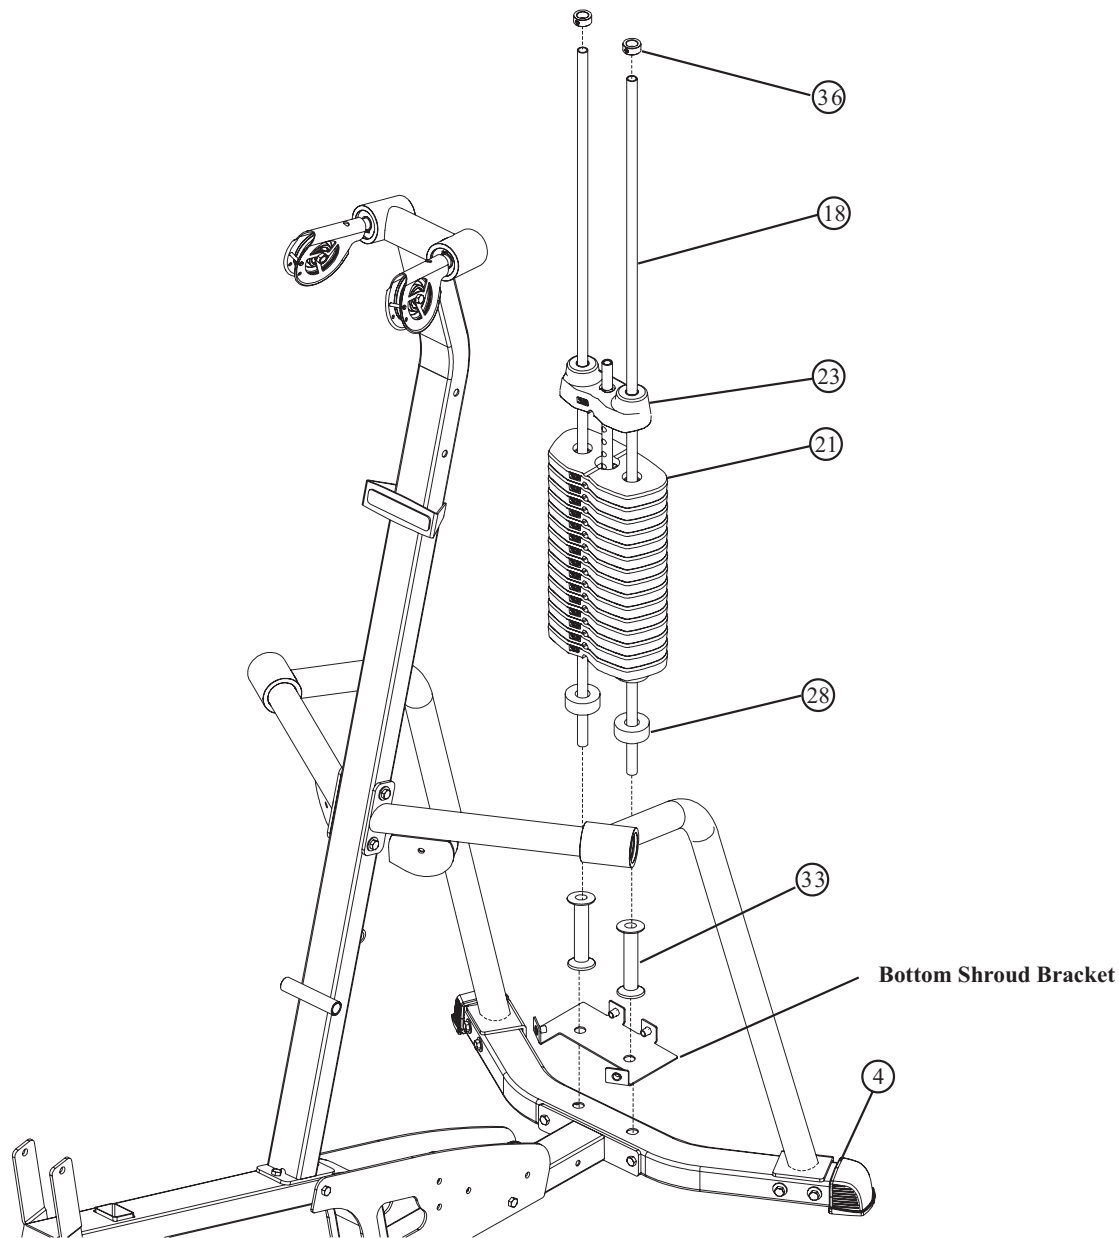

FIGURE 5
- Place the GUIDE RODS (18) through the BOTTOM SHROUD BRACKET and into the REAR BASE (4) as shown in Figure 5.
- Lubricate the GUIDE RODS (18) with the included silicon package.
- Slide two WEIGHT STACK SPACERS (33) and two WEIGHT STACK CUSHIONS (28) over the GUIDE RODS (18). **Note:** WEIGHT STACK SPACERS are not required with add-on weight stack option.
- Using extreme care, slide all fifteen WEIGHT PLATES (21) over the GUIDE RODS (18) and down onto the WEIGHT STACK CUSHIONS (28). Make sure the WEIGHT PLATES (21) all face as shown.
- Slide the HEAD PLATE ASSEMBLY (23) down the GUIDE RODS (18), onto the weight plate stack.
- Slide two SHAFT COLLARS (36) over the GUIDE RODS (18) as shown in Figure 5.